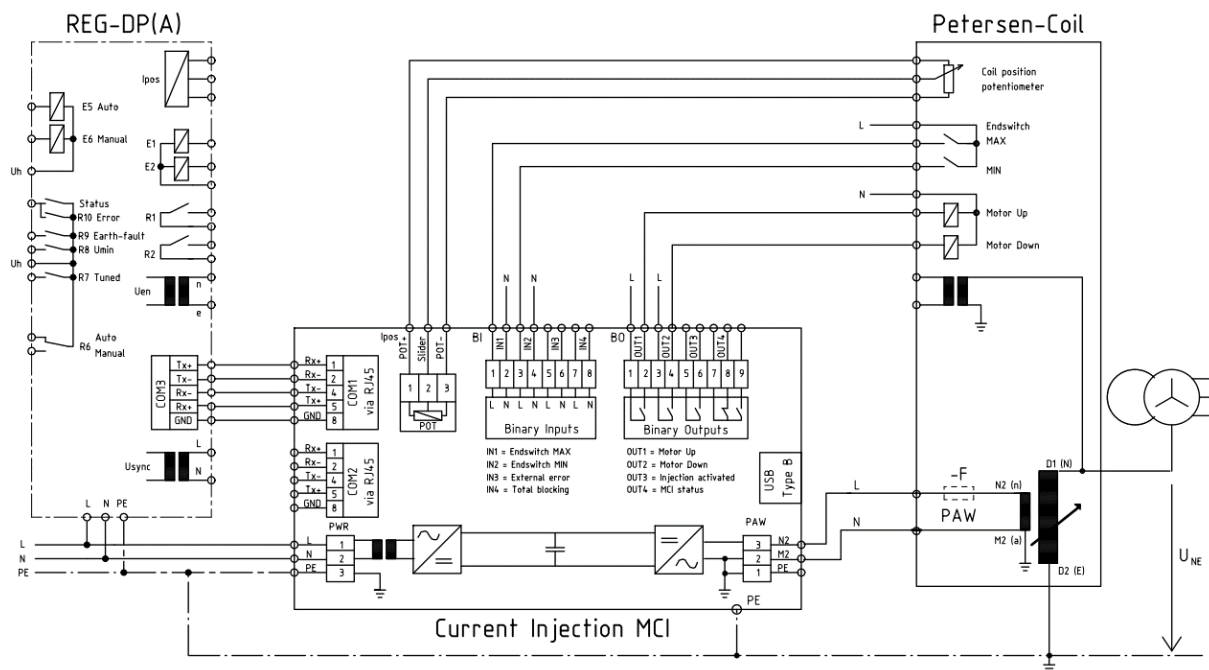

Figure 4: Mode 1 – Connection of REG-DP(A), MCI and arc suppression coil
Connectors must be connected according to the chapter 5.9. Figure 4 shows typical connection of MCI, REG-DP(A) and ASC.